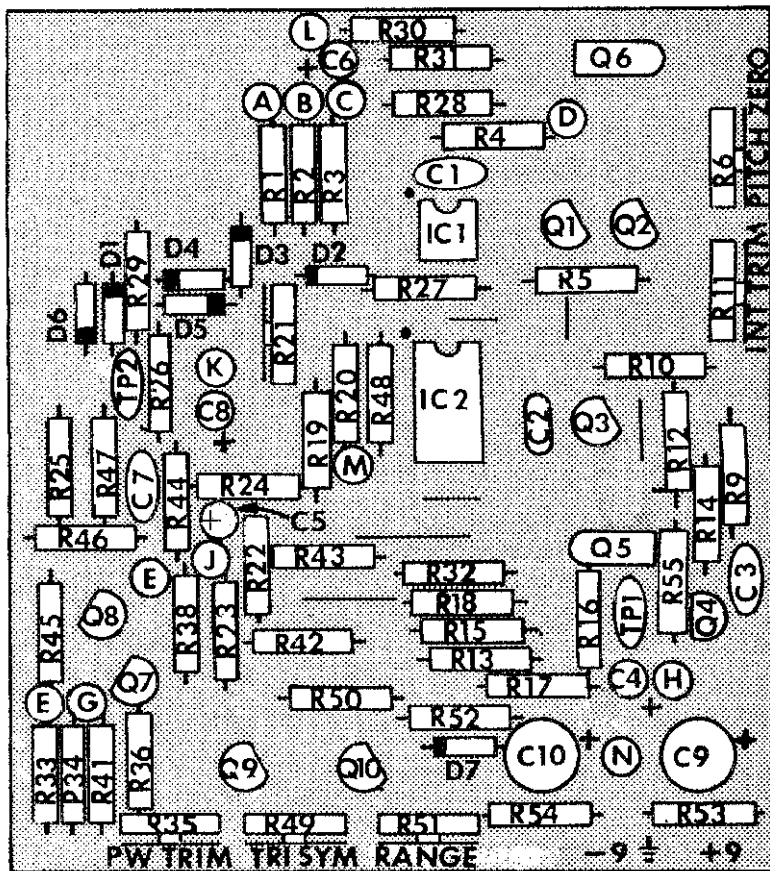

Figure 1 - Circuit board parts placement
- ( ) Using six (6) pieces of excess wire clipped during resistor installation form and install the six wire jumpers as shown by the solid lines in figure 1 and printed on the circuit board.
Install the transistors. Orient as illustrated in figure 1 and the parts placement designators printed on the circuit board. All semi-conductors are heat sensitive and may be damaged if allowed to get too hot while soldering. To be on the safe side heat sink each transistor lead during the soldering operation by grasping it with a pair of needle nose pliers at a point between the circuit board and the body of the transistor.